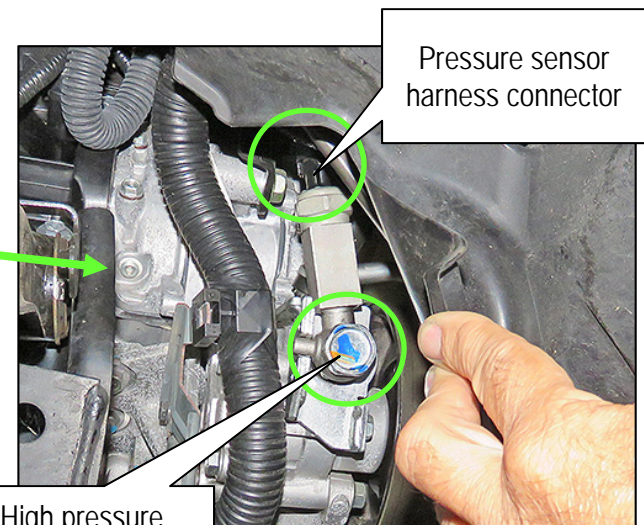

Figure 4
6. Unbolt the power steering high pressure piping eye-bolt (see Figure 4).
**NOTICE** The plastic fender protector has been pulled outward in Figure 4 to allow a clear view of the high pressure piping eye-bolt and power steering pressure sensor's harness. Pull on the fender protector just enough to access the eye-bolt and connector. Do not pull any further or a crease may form and the protector may be permanently damaged.
7. Disconnect the power steering pressure sensor's harness connector (see Figure 4).